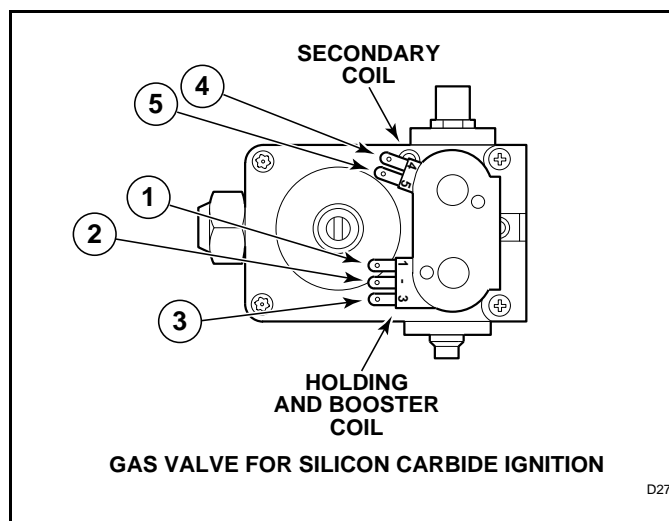

Figure 60
- Remove valve wire harness disconnect block from the holding and booster coil. See *Figure 60*.
- Set test meter to read Ohms and put meter probes to terminals shown in *Figure 60*, and in the following chart.